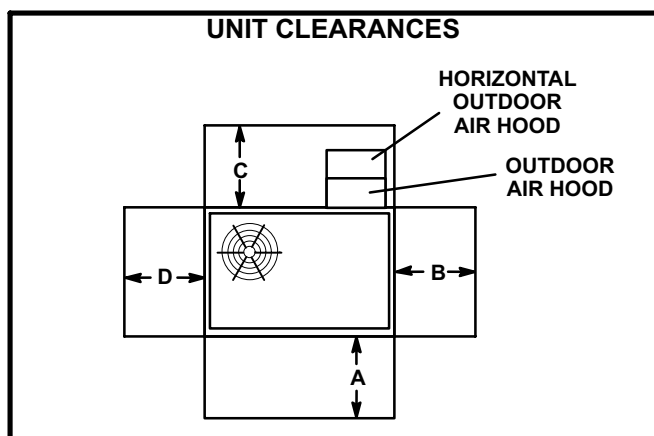

FIGURE 1
The ZHA unit is CSA certified as a heat pump with cooling and with or without auxiliary electric heat for non-residential use only at the clearances to combustible materials as listed on the unit nameplate and in figure 1.
- 1- Specified installation clearances must be maintained when installing units. Refer to figure 1.